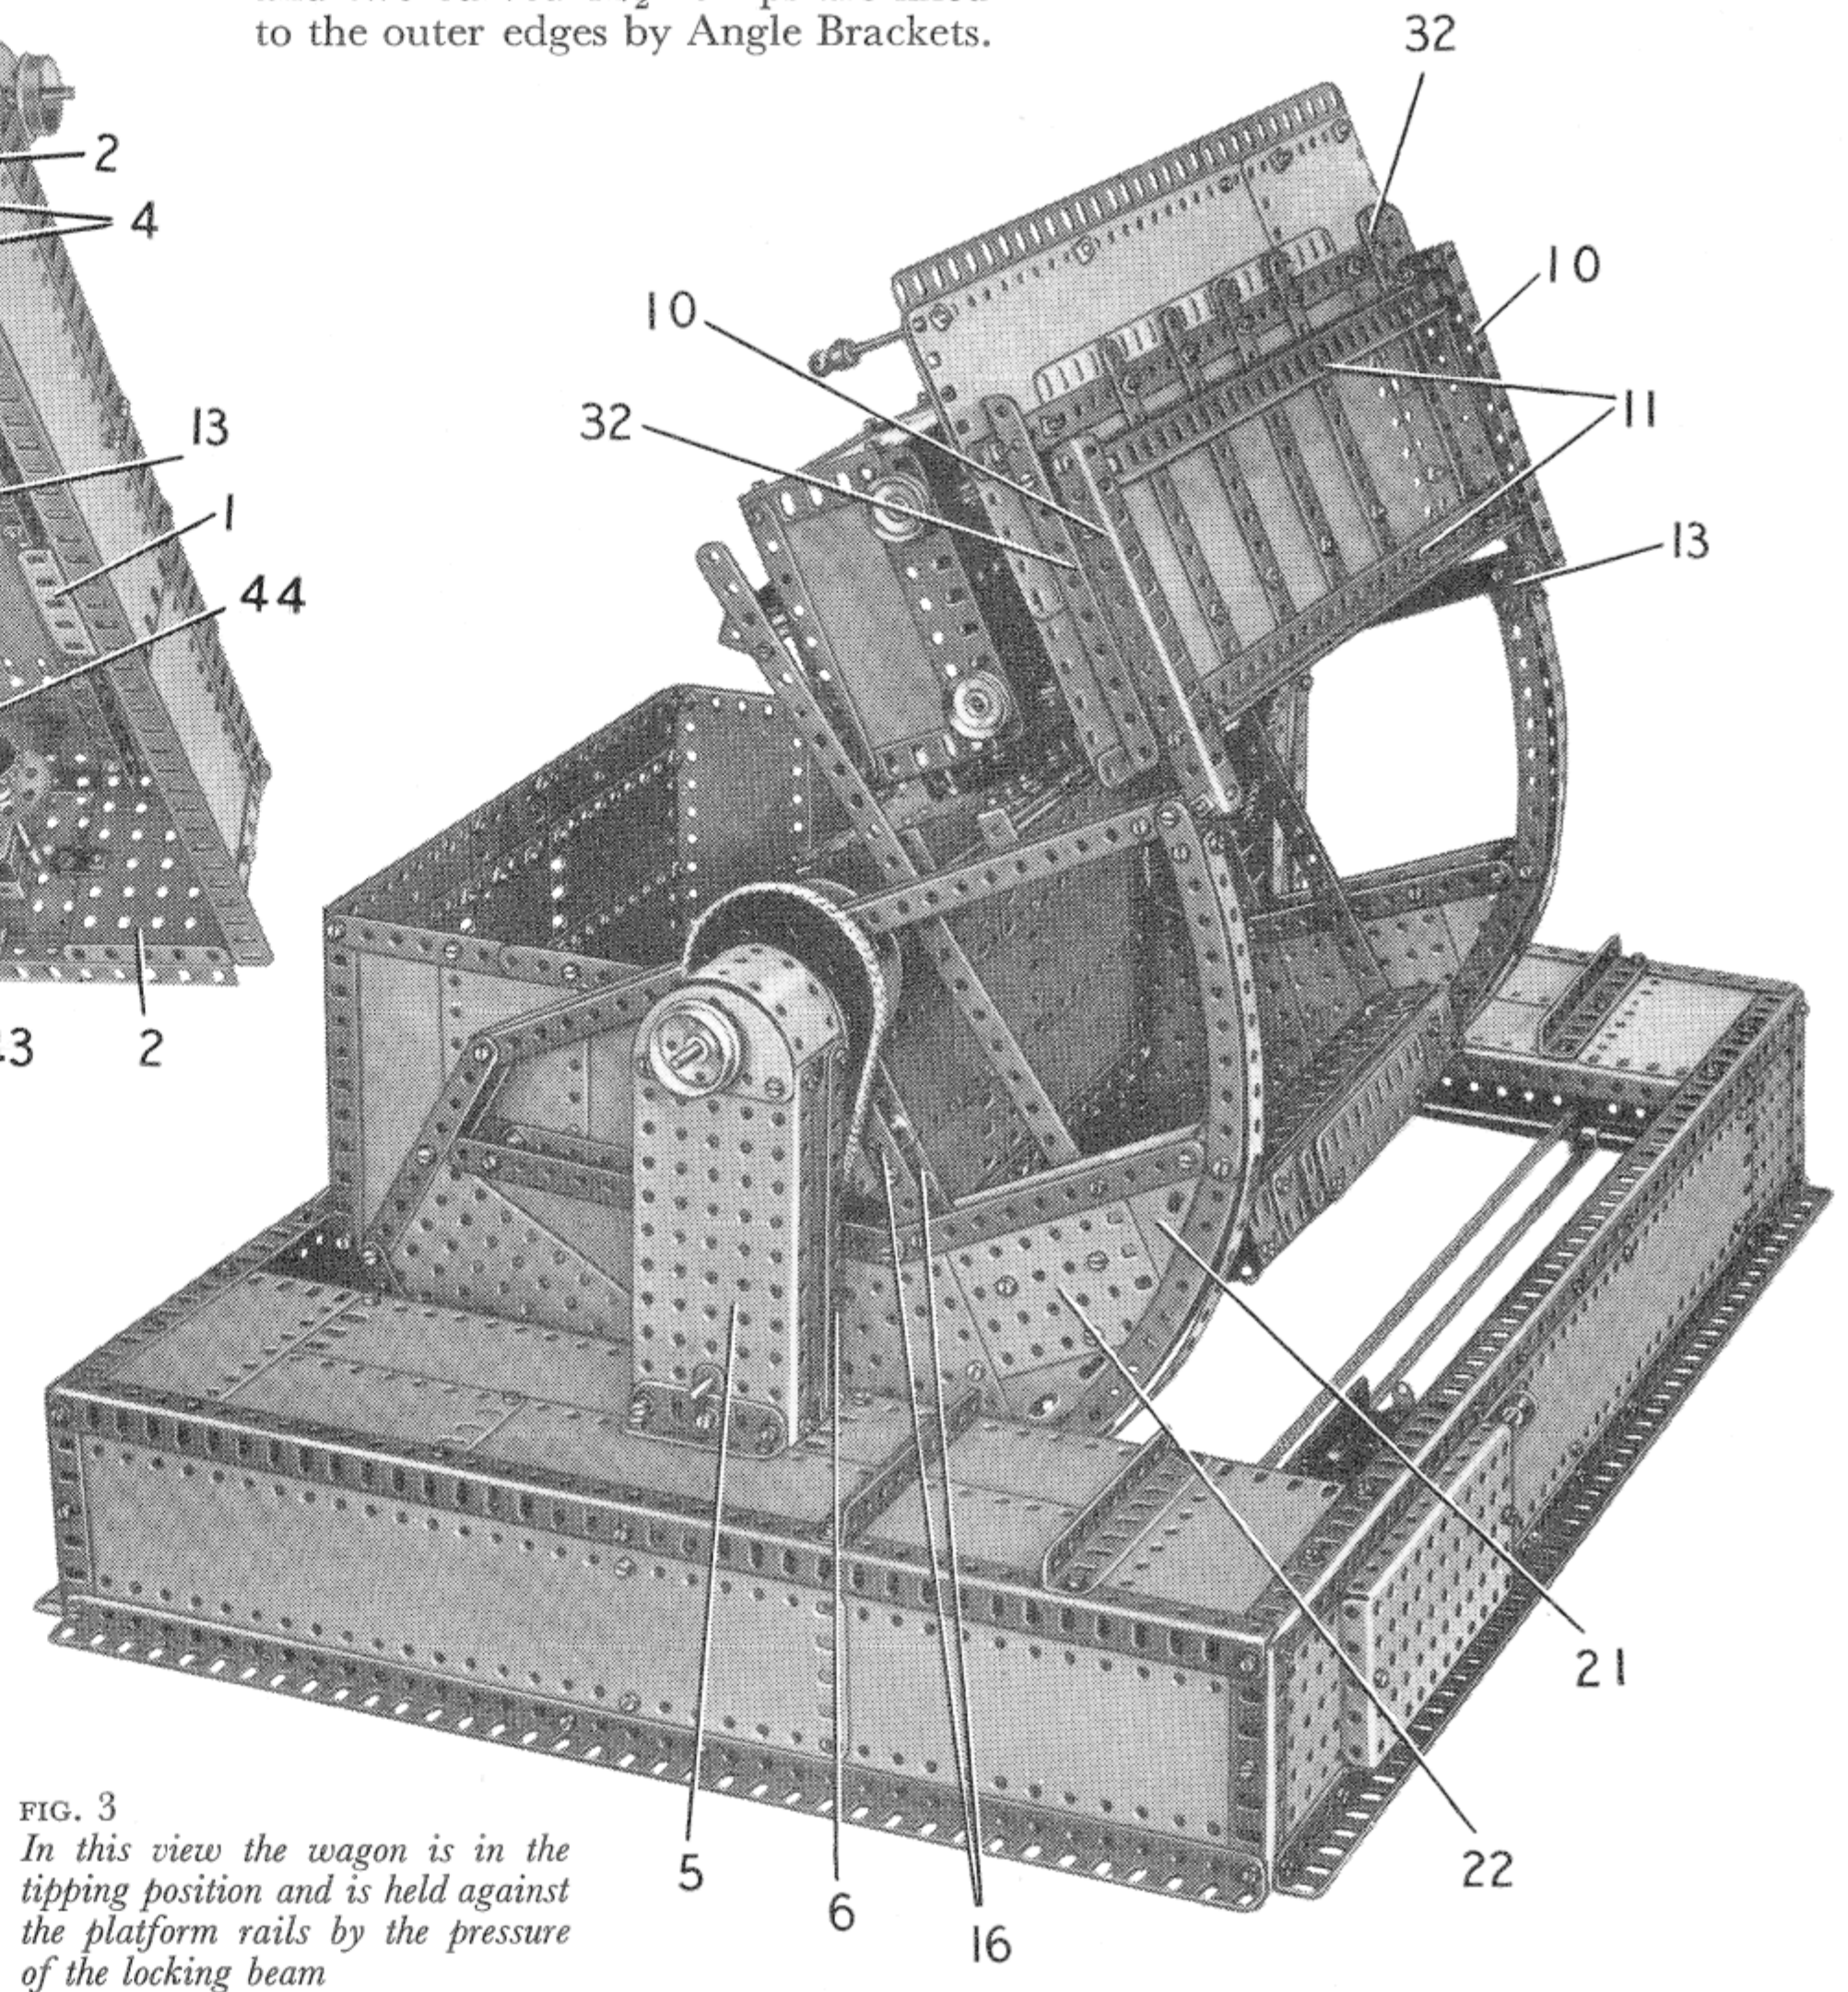
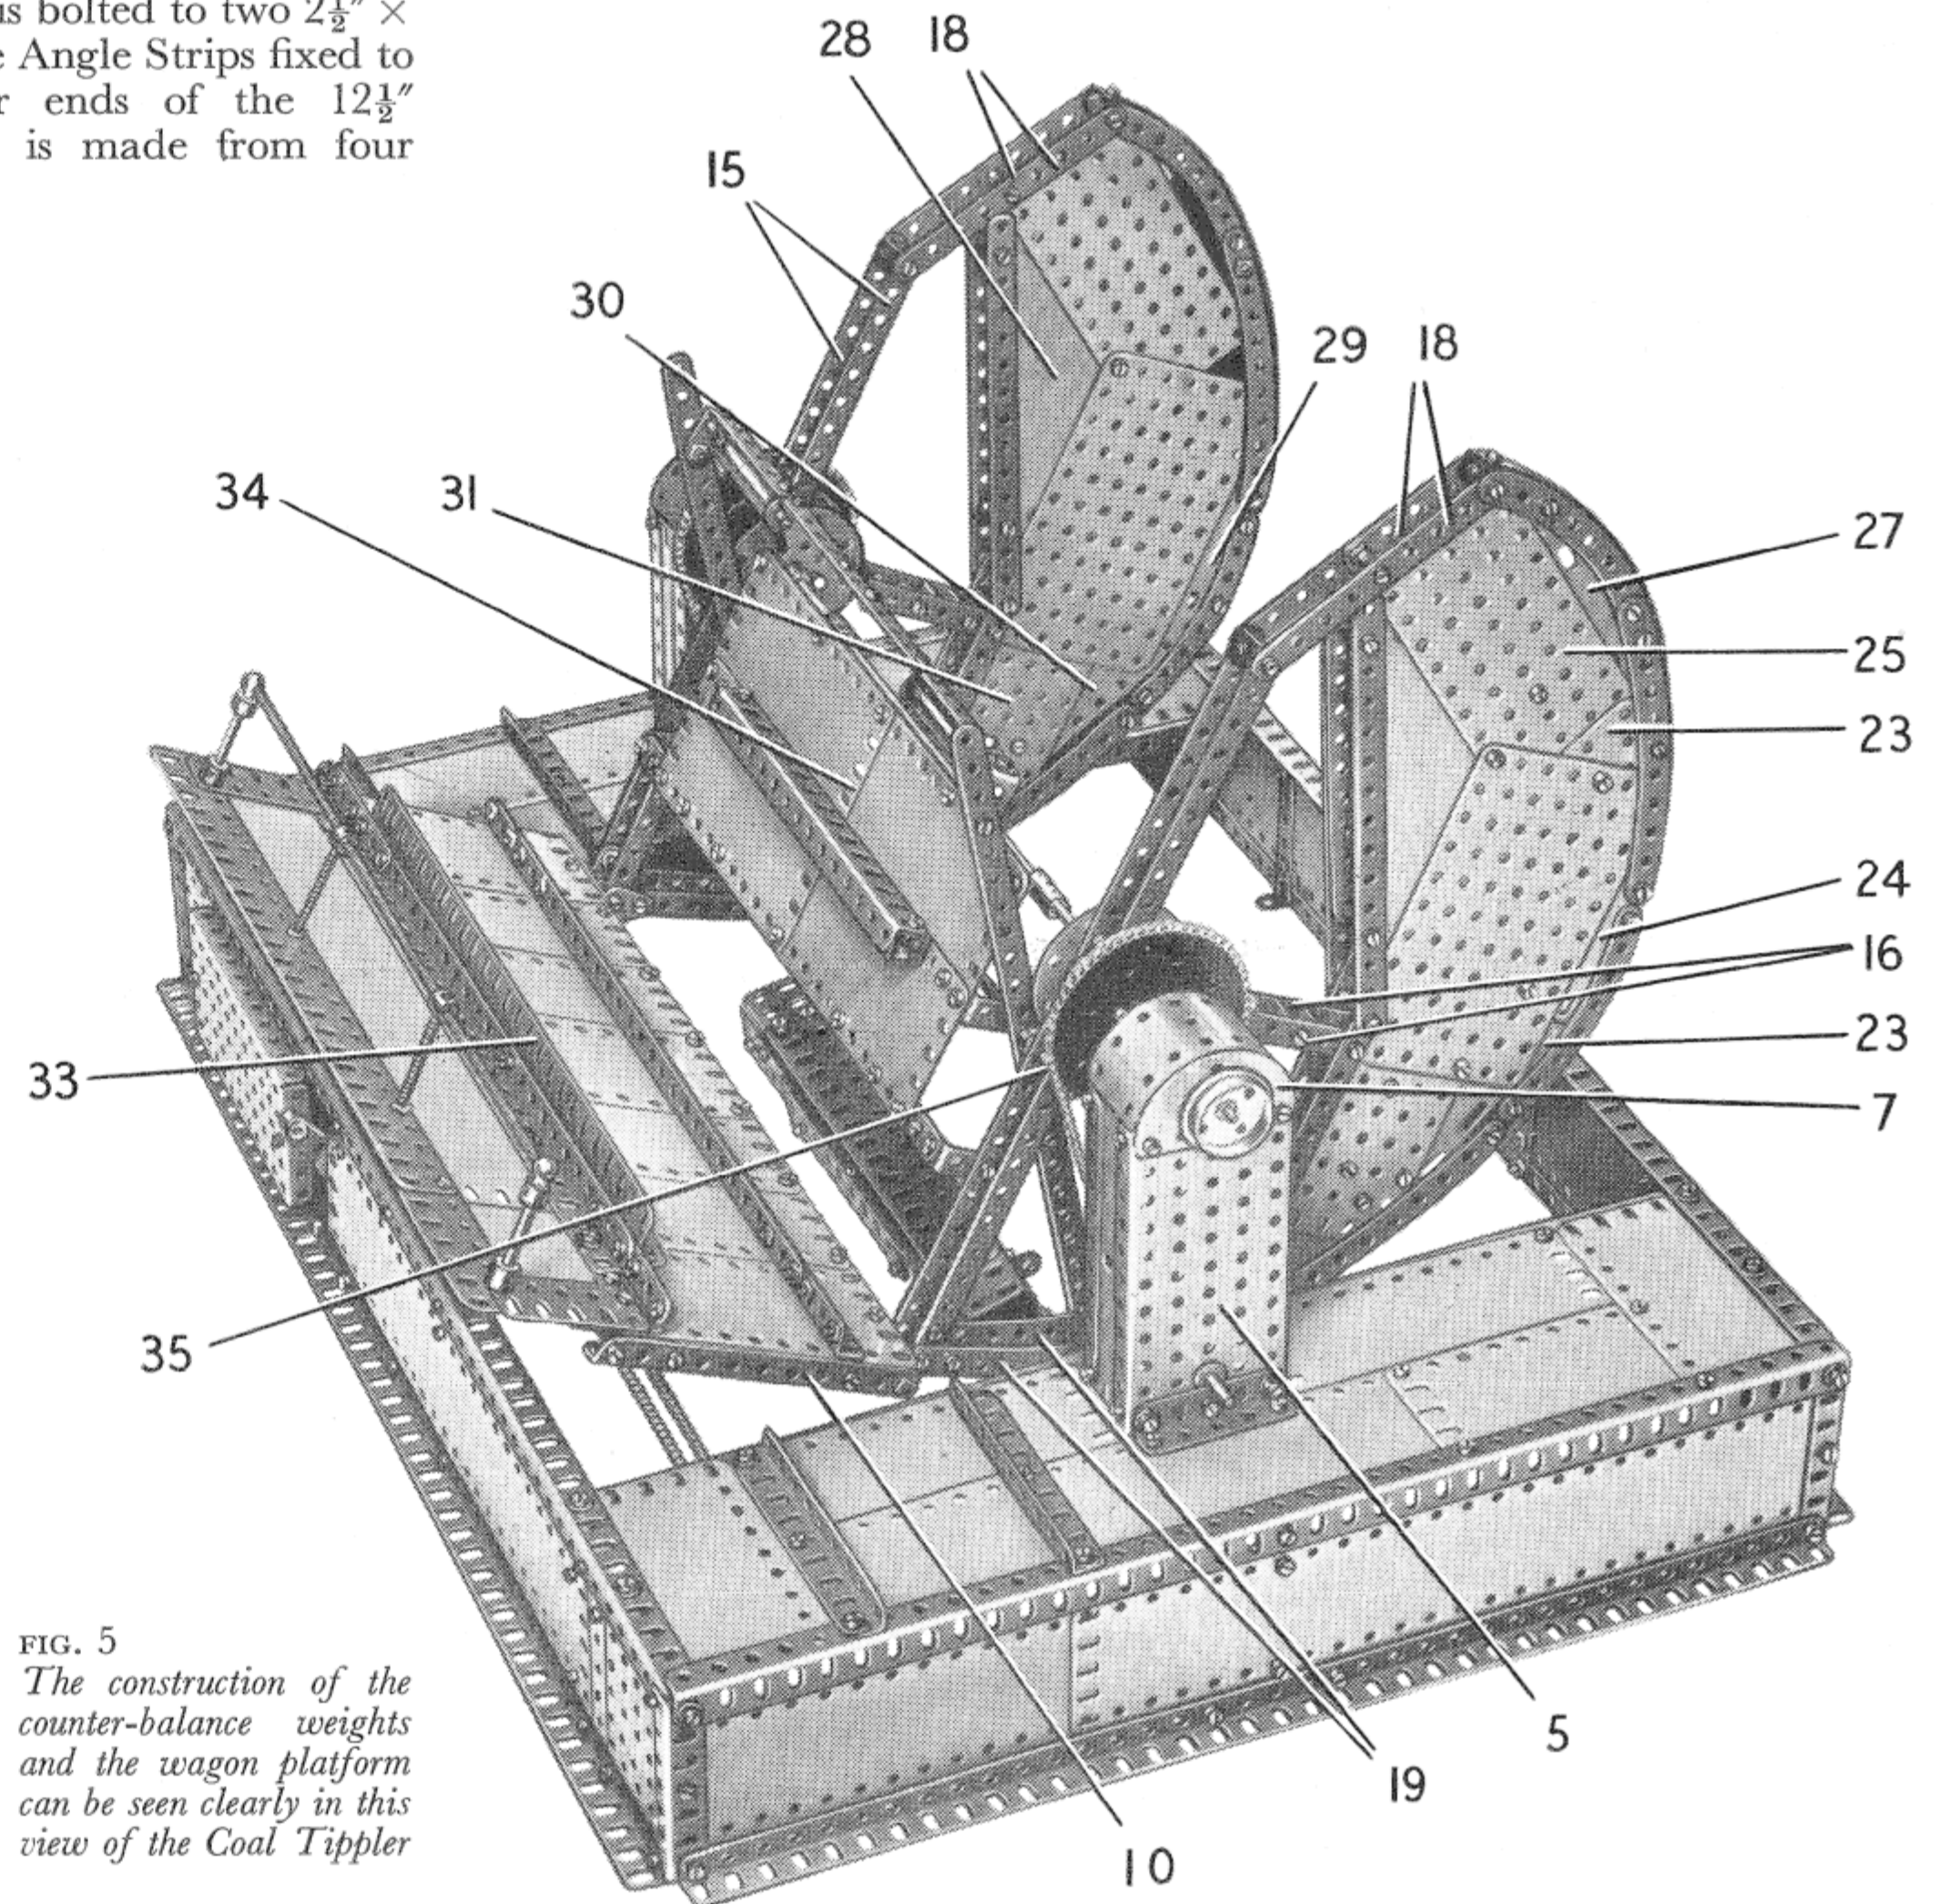
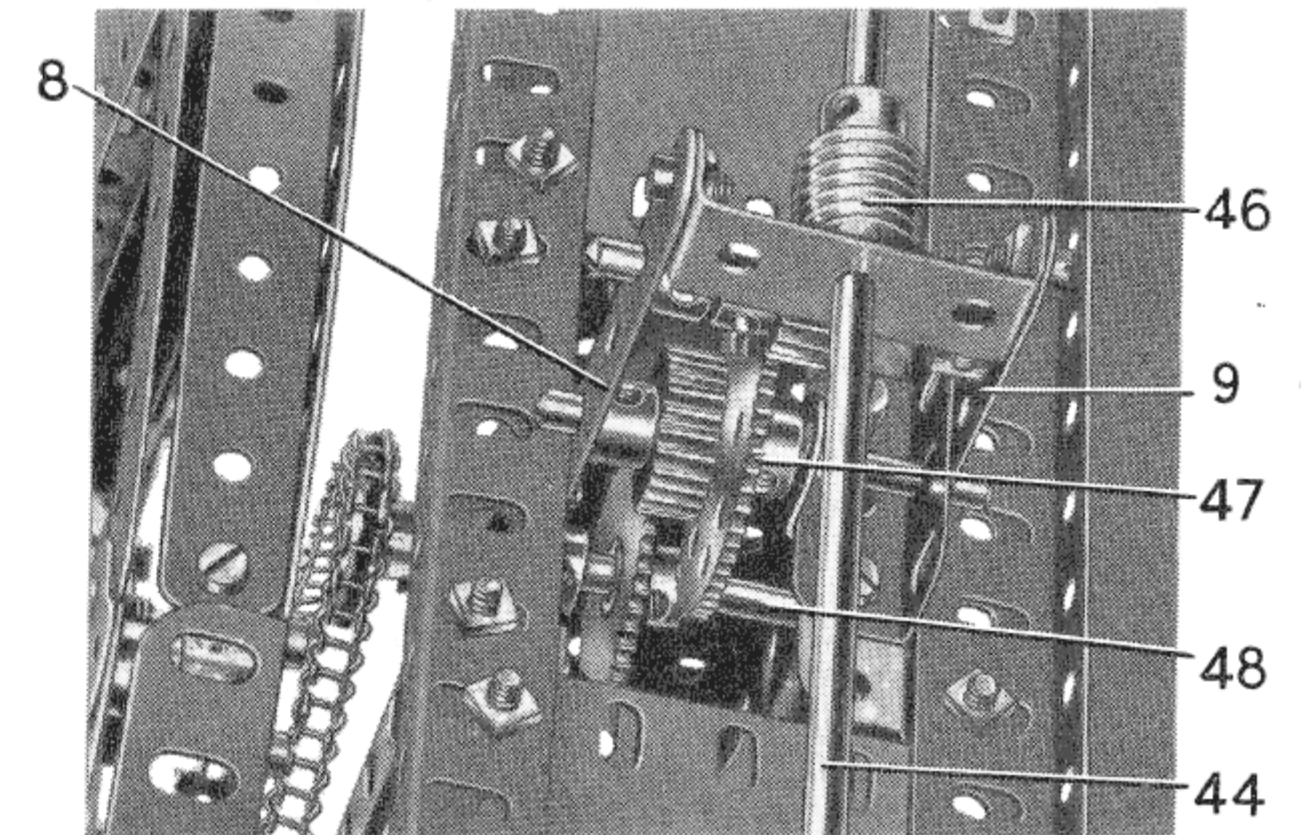

FIG. 3
FIG. 5
FIG. 7
The outer face of each column is a $5\frac{1}{2}$ " \times $2\frac{1}{2}$ " Flanged Plate (5) fixed to a $2\frac{1}{2}$ " Angle Girder bolted to one of the Girders (4). The inner face is formed by two $5\frac{1}{2}$ " Angle Girders (6) supported by a $2\frac{1}{2}$ " Angle Girder fixed to the second of the Girders (4). The Flanged Plate (5) and the Girders (6) are extended upward by Semi-Circular Plates (7) (Fig. 5), and the sides and top of the column are filled in by $5\frac{1}{2}$ " \times $1\frac{1}{2}$ " Flexible Plates. A $7\frac{1}{2}$ " Strip (8) (Fig. 7) is bolted to the inner face of the column, and a $2\frac{1}{2}$ " Strip (9) is fixed to the Flanged Plate (5) and to a $1\frac{1}{2}$ " Angle Girder attached to one of the Girders (4). The lower ends of Strips (8) and (9) are connected by a $1\frac{1}{2}$ " \times $\frac{1}{2}$ " Double Angle Strip.
The frame that supports the platform (Fig. 3) consists of two $5\frac{1}{2}$ " Angle Girders (10) connected by $1" \times \frac{1}{2}"$ Angle Brackets to two built-up girders (11). Each of these girders is formed by two $12\frac{1}{2}"$ Angle Girders overlapped 23 holes. A Bell Crank (12), a $1"$ Corner Bracket (13), and a $1" \times 1"$ Angle Bracket (14) are fixed to the inner end of each of the Girders (10) by a $\frac{3}{4}"$ Bolt. This Bolt passes through the boss of the Bell Crank, and the Corner Bracket is spaced from the Bell Crank by a Collar. The Angle Brackets (14) are bolted to the inner one of the girders (11).
The frame that supports each counter-balance consists of two $12\frac{1}{2}"$ Strips (15) (Fig. 5) bolted to the Bell Crank (12) and to Corner Bracket (13). These Strips are connected at a point 14 holes from their lower ends, by a Double Bracket, and at their upper ends by another Double Bracket. The bolts that fix the centre Double Bracket secure also two $5\frac{1}{2}"$ Strips (16), to each of which is fastened a Face Plate (17) (Fig. 1). The Strips (16) are connected by a Double Bent Strip.
Fig. 5. The outer face of each counter-balance is filled in by a $2\frac{1}{2}" \times 2\frac{1}{2}"$ Triangular Flexible Plate (21), a $4\frac{1}{2}" \times 2\frac{1}{2}"$ Flat Plate (22), a $3\frac{1}{2}" \times 1\frac{1}{2}"$ Triangular Flexible Plate, a $5\frac{1}{2}" \times 3\frac{1}{2}"$ Flat Plate, two $2\frac{1}{2}" \times 1\frac{1}{2}"$ Triangular Flexible Plates (23), a $2\frac{1}{2}" \times 1\frac{1}{2}"$ Flexible Plate (24), a $5\frac{1}{2}" \times 2\frac{1}{2}"$ Flat Plate (25), a $5\frac{1}{2}" \times 2\frac{1}{2}"$ Flexible Plate and a $3\frac{1}{2}" \times 2\frac{1}{2}"$ Triangular Flexible Plate (27). Three $12\frac{1}{2}"$ Angle Girders placed together are bolted on the inside of these Plates to add to the weight of the structure, and the inner edges of the counter-balance are finished by $5\frac{1}{2}"$ and $7\frac{1}{2}"$ Strips as shown. The inside face of each counter-balance is formed by a $5\frac{1}{2}" \times 2\frac{1}{2}"$ and a $5\frac{1}{2}" \times 3\frac{1}{2}"$ Flat Plate, a $5\frac{1}{2}" \times 2\frac{1}{2}"$ Flexible Plate (28), a $2\frac{1}{2}" \times 1\frac{1}{2}"$ Flexible Plate (29), a $4\frac{1}{2}" \times 2\frac{1}{2}"$ Flexible Plate (30) and a $4\frac{1}{2}" \times 2\frac{1}{2}"$ Flat Plate (31). The inner and outer faces of the counter-balance are connected by Double Brackets, and two curved $12\frac{1}{2}"$ Strips are fixed to the outer edges by Angle Brackets.
The front section of the tippler platform consists of a $12\frac{1}{2}'' \times 2\frac{1}{2}''$ Strip Plate and a $4\frac{1}{2}'' \times 2\frac{1}{2}''$ Flexible Plate, overlapped three holes and edged by a $12\frac{1}{2}''$ and a $5\frac{1}{2}''$ Flat Girder. The platform is completed by five $5\frac{1}{2}'' \times 2\frac{1}{2}''$ Flexible Plates and two $4\frac{1}{2}'' \times 2\frac{1}{2}''$ Flexible Plates (Fig. 5). These Plates are strengthened underneath by two built-up strips, placed one along the rear edge of the platform and one below the join between the Strip Plate and the Flexible Plates. Each built-up strip is made from two $9\frac{1}{2}''$ Strips overlapped seven holes. The joints between the $5\frac{1}{2}'' \times 2\frac{1}{2}''$ Flexible Plates are strengthened by $5\frac{1}{2}''$ Strips. Two $5\frac{1}{2}''$ Angle Girders (32) (Fig. 3), are bolted underneath the platform and a Fishplate *lock-nutted* to each of these Girders is bolted to one of the Girders (10).
Each Rod (44) and (45) carries a Worm (46) (Fig. 7), which drives a ½" Pinion on a 2" Rod and this Pinion engages a 57-tooth Gear (47) on another 2" Rod (Fig. 7). A ¾" Pinion is fixed also on this Rod and drives a 50-tooth Gear on a 3" Rod (48). A ¾" Sprocket on Rod (48) is connected by Chain to one of the 3" Sprockets (36).